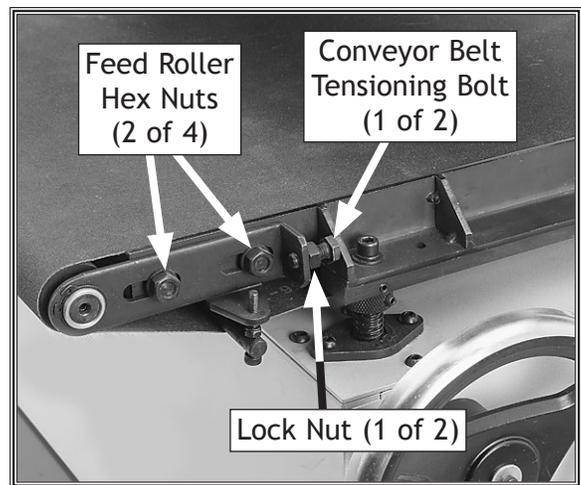

Figure 36. Conveyor belt tensioning controls.
1. Loosen feed roller hex nuts, shown in **Figure 36**, on both sides of conveyor belt.